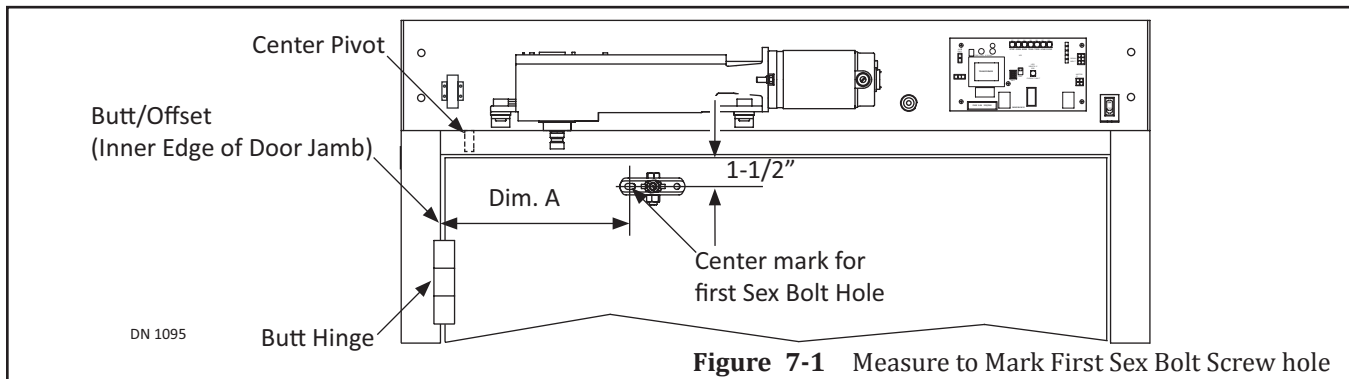

Figure 7-1 Measure to Mark First Sex Bolt Screw hole
2. Mark a Vertical line on the face of the Swing door. Please see Figure 7-1.